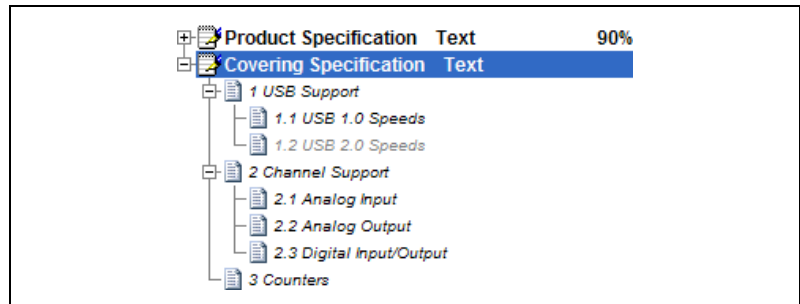

Figure 3-7. Covering Specification in Management View
14. Expand the child elements of the **Covering Specification** document in the tree view pane of the Management View, as shown in Figure 3-7.